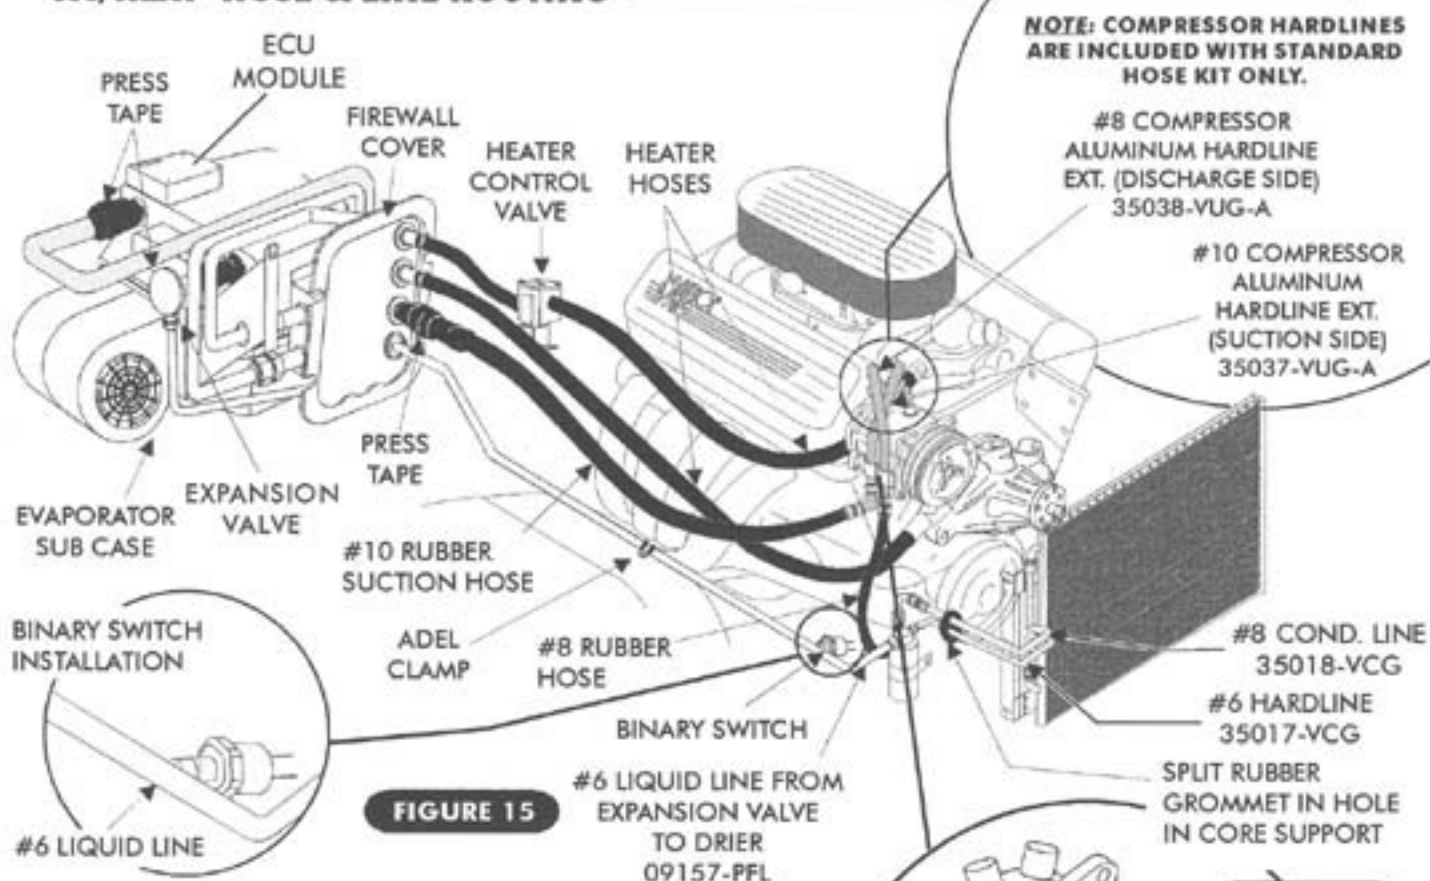

FIGURE 15
- ☐ LOCATE THE TWO COMPRESSOR ALUMINUM HARDLINE EXTENSIONS. SEE FIGURE 15, PAGE 19.
- ☐ LOCATE THE #8 COMPRESSOR ALUMINUM HARDLINE. LUBRICATE (1) #8 O-RING AND INSTALL ON THE FEMALE O-RING END. CONNECT THIS LINE TO THE #8 DISCHARGE PORT ON THE COMPRESSOR, AND TIGHTEN. SEE FIGURE 15, PAGE 19.
- ☐ LOCATE THE #10 COMPRESSOR ALUMINUM HARDLINE. LUBRICATE (1) #10 O-RING AND INSTALL ON THE FEMALE O-RING END. CONNECT THIS LINE TO THE #10 SUCTION PORT ON THE COMPRESSOR, AND TIGHTEN. SEE FIGURE 15, PAGE 19.
- ☐ LOCATE THE #8 RUBBER HOSE. THIS HOSE WILL CONNECT TO THE #8 ALUMINUM COMPRESSOR HARDLINE AND #8 ALUMINUM HARDLINE FROM CONDENSER. LUBRICATE (2) #8 O-RINGS, AND INSTALL ONE ON EACH END OF THE #8 RUBBER HOSE. ROUTE HOSE AS SHOWN IN FIGURE 15, PAGE 19 AND TIGHTEN. **NOTE: THE 90° DEGREE HOSE END CONNECTS TO THE CONDENSER HARDLINE.**
- ☐ LOCATE THE #10 RUBBER HOSE. THIS HOSE WILL CONNECT TO THE #10 ALUMINUM COMPRESSOR HARDLINE AND #10 ALUMINUM HARDLINE FROM EVAPORATOR. LUBRICATE (2) #10 O-RINGS, AND INSTALL ONE ON EACH END OF THE #10 RUBBER HOSE. ROUTE HOSE AS SHOWN IN FIGURE 15, PAGE 19 AND TIGHTEN. **NOTE: THE 90° DEGREE HOSE END CONNECTS TO THE COMPRESSOR HARDLINE.**
- ☐ INSTALL THE #6 LIQUID LINE TO DRIER WITH LUBRICATED O-RING AND TIGHTEN. FIGURE 15, PAGE 19
- ☐ INSTALL BINARY SWITCH ON #6 LIQUID LINE. SEE FIGURE 15, PAGE 19.
- ☐ SECURE THE #6 LIQUID LINE TO THE FENDER USING THE SUPPLIED ADEL CLAMP. SEE FIGURE 15, PAGE 19.